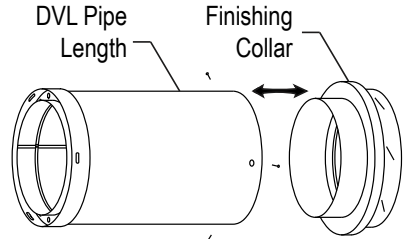

Figure 4
2. Attaching DVL to a Finishing Collar (Figure 4)